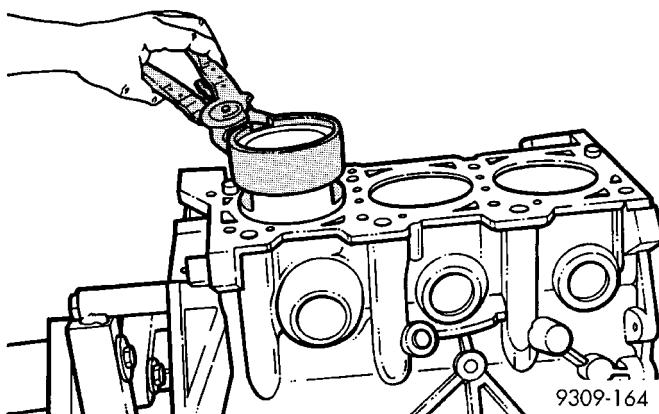

Fig. 85 Piston - Installation
(4) Immerse the piston head and rings in clean engine oil, slide the ring compressor over the piston and tighten with the special wrench (Fig. 85). **Ensure position of rings does not change during this operation.**